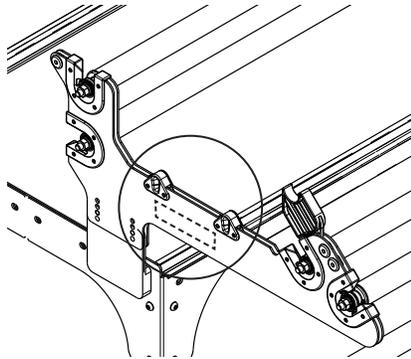

Fig. 12-1
**12-1:** Start from one side of the hook and loop strip and remove about 1/2 of the protective paper and then place the sticky side right below the bungee clamps and press the hook and loop strip firmly to the frame. Remove the remainder of the protective paper and press the hook and loop strip down. (Fig. 12-1)